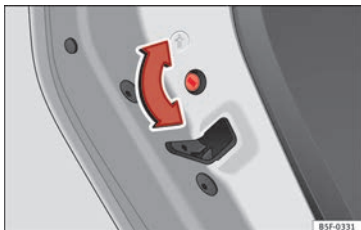

Fig. 139 Childproof lock on the left hand side door.
- With the door open, rotate the groove in the door using the ignition key, clockwise for the left hand side doors » **Fig. 139** and
- With the door open, rotate the groove in the door using the ignition key, anti-clockwise for the left hand side doors » **Fig. 139** and clockwise for the right hand side doors.